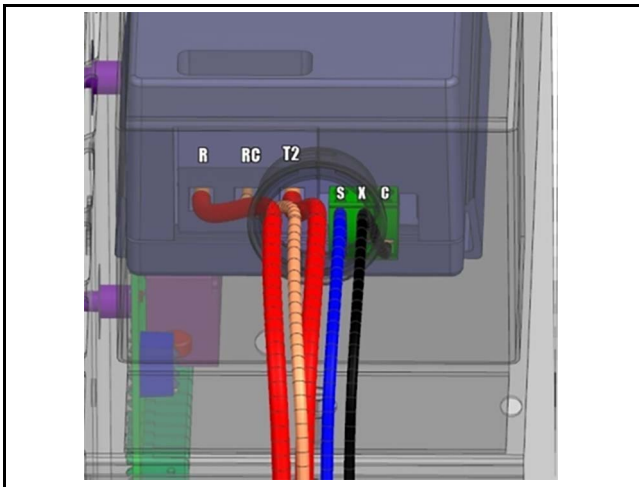

Fig. 17 R-Signal Wiring (LM)
3. Perform the following at the Smart Start Assist module terminals, using Smart Start harness (See Fig. 17):
5. Insert the R-signal wire of compressor harness into the Smart Start Assist R connector. Refer to Fig. 17.